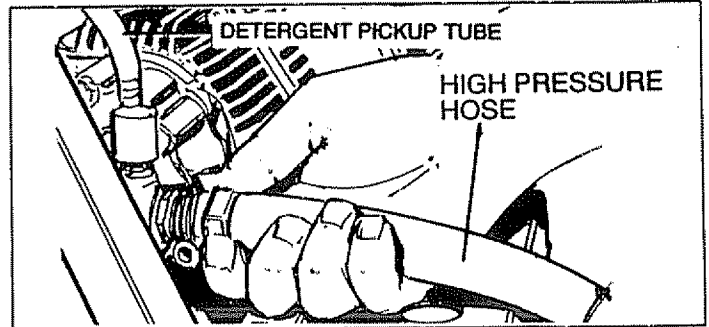

FIG. 7
- Attach the other end of the high pressure hose to high pressure fitting on pump (Fig. 7). Tighten with adjustable wrench.
- Attach Detergent Pickup Tube and Filter as shown in Fig. 7.